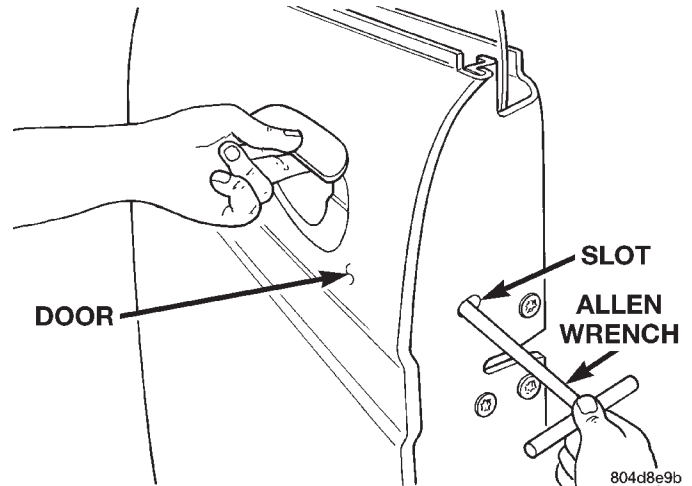

Fig. 83 Door Latch Adjustment
(1) Insert a suitable allen-wrench through elongated slot in door end frame and loosen bolt 1/2 to one full turn (Fig. 83).
(2) Cycle outside door handle twice.
(3) Tighten adjusting screw to 30 in. lbs.
(4) Verify latch operation.